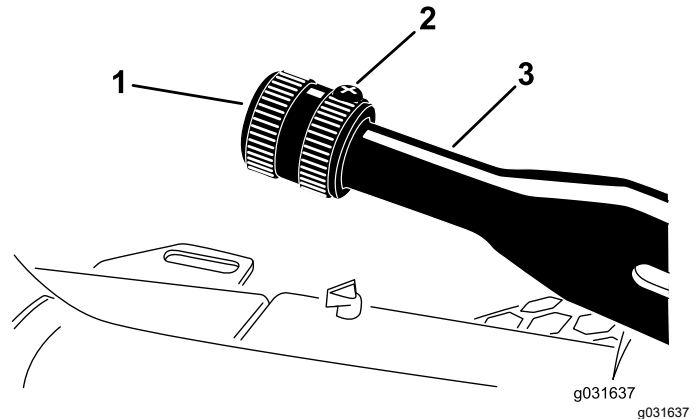

Figure 60
1. Loosen the set screw securing the knob to the parking-brake lever (**Figure 60**).